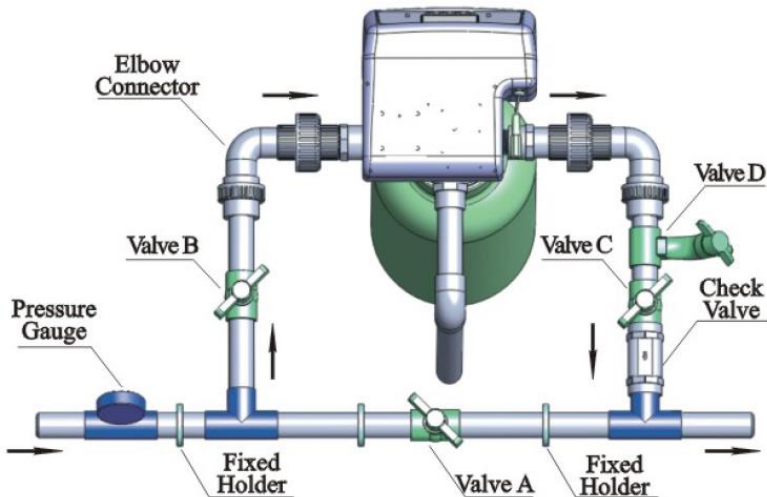

Figure1-2
② Pipeline connection
- a. As figure 1-2 shows, install a pressure gauge in water inlet.